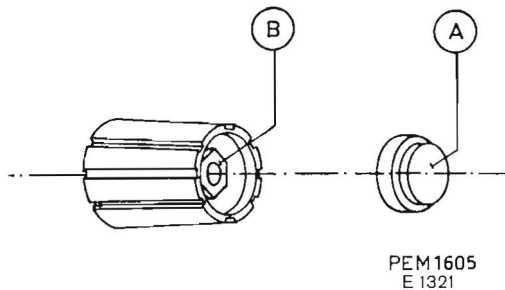

Fig. 3. Removing the knobs
C. REMOVING THE KNOBS (see Fig. 3)